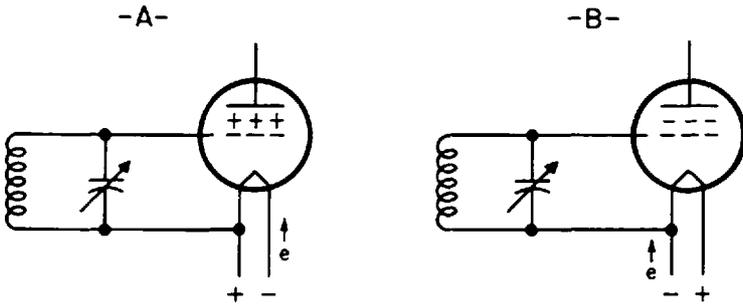

Fig. 19-2. Circuits showing how alternating current flowing through the filament places an alternating charge on the grid of the tube.
**Further Attempts to Use Alternating Current for Heating.** The use of alternating current directly on the filament of the radio tube was tried in a number of ways, but one difficulty always remained. The grid of the tube, as you know, must be connected to the filament as shown in Figure 19-2. So if alternating current is sent through the filament, then during one-half of the cycle, a positive charge is placed on the grid (Figure 19-2A). During the next half